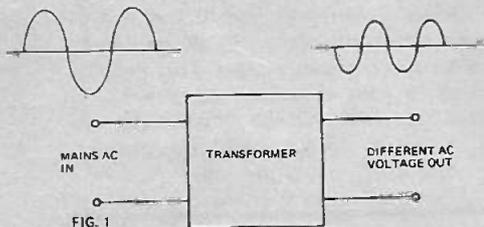

FIG. 1
The device is a combination of two basic electronic circuits — (Fig. 1). Q2 and Q3 form a bistable. At any time, only one of these transistors can be conducting. Suppose Q2 is conducting and Q3 is off. This state may be reversed, so that Q3 is conducting and Q2 is off, by applying a negative-going pulse to the junction between capacitors C4 and C5. Each time a pulse arrives the bistable will change state.
**T**HE usual first stage in a dc power supply is the transformer which converts the ac at mains voltage to the (usually) lower voltage required for semi-conductor circuits. The transformer also isolates the circuit from the ac mains (Fig. 1).